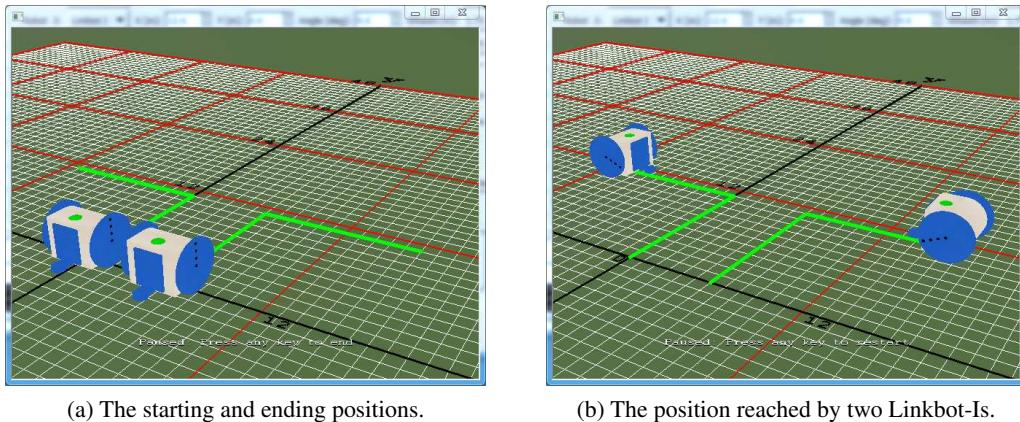

Figure 11.3: The trajectories for two Linkbot-Is.
4. Two Linkbot-Is are configured as two-wheel robots. The radii of the wheels for both Linkbot-Is are 1.75 inches. The track width of the Linkbot-I is 3.69 inches. Write a program **turnleftnb2.ch** for two Linkbot-Is moving in the following manner simultaneously. The joint speeds for Linkbot-Is are set to 45 degrees per second. Two Linkbots will roll forward for 360 degrees from a starting line at the same time. Next, the first robot turns left 90 degrees and the second robot turns right 90 degrees. Then, both robots roll forward for 360 degrees. Finally, both robots drive back to the originally positions along the same paths as shown in Figure 11.3.